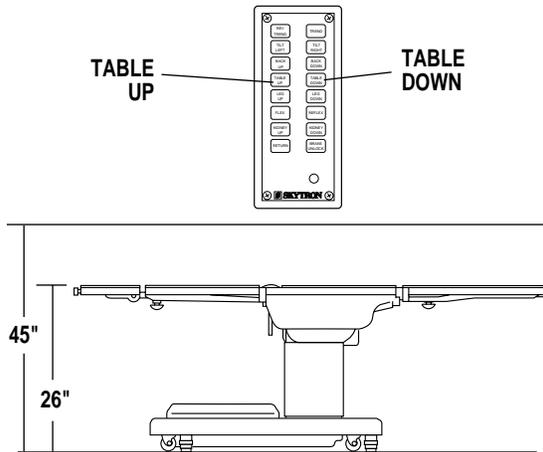

Figure 3-8. Elevation Function
f. Elevation. To raise table top, press the TABLE UP button (figure 3-8). The table will lift a patient weight of 500 pounds up to a maximum height of 45" (49" with X-Ray top and 2" pad). To lower the table top, press the TABLE DOWN button. The table top will go down to a minimum height of 26".